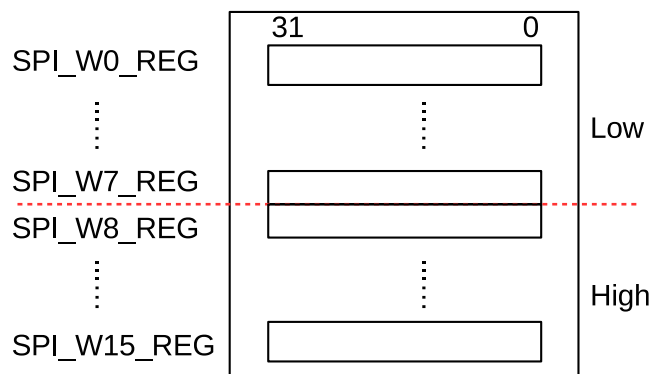

Figure 27-2. Data Buffer Used in CPU-Controlled Transfer
GP-SPI2 provides 16 x 32-bit data buffers, i.e., SPI_W0_REG ~ SPI_W15_REG, see Figure 27-2. CPU-controlled transfer indicates the transfer, in which the data to send is from GP-SPI2 data buffer and the received data is stored to GP-SPI2 data buffer. In such transfer, every single transaction needs to be triggered by the CPU, after its related registers are configured. For such reason, the CPU-controlled transfer is always single transfers
- **SPI Buffer:** SPI_W0_REG ~ SPI_W15_REG, see Figure 27-2. The data transferred in CPU-controlled mode is prepared in this buffer.